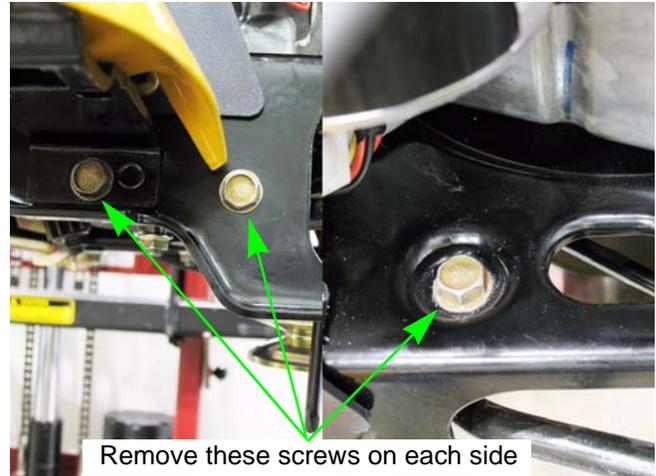

Figure 3A.12
9. Remove the six screws that secure the steering plate to the frame. See Figure 3A.12.